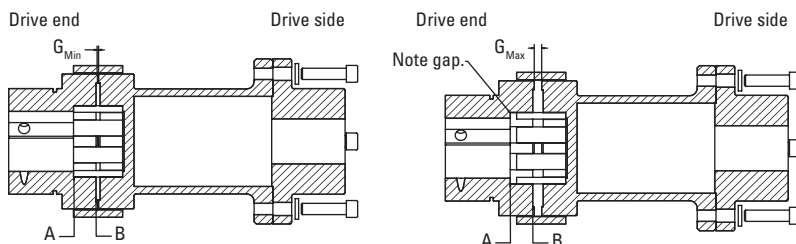

Fig. 2. Proper shaft-to-hub engagement.
1. The Timken Quick-Flex single-ended spacer coupling should be oriented with the flanged hub on the drive shaft and the coupling hub with insert on the driven shaft (fig. 2).
5. Install the coupling hub. It should be mounted so the end of the shaft is flush with surface "A" as shown in fig. 2. It is acceptable for the shaft to extend past "A" as long as it is not past the teeth shown as "B."